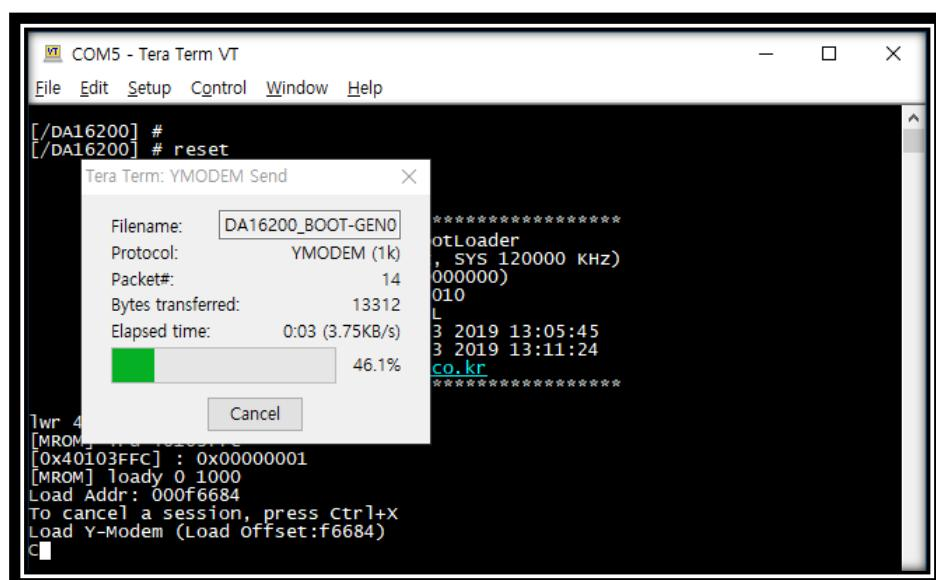

Figure 6. Programming FBOOT image
- After opening the macro file, the FBOOT firmware image is programmed as shown in Figure 6.